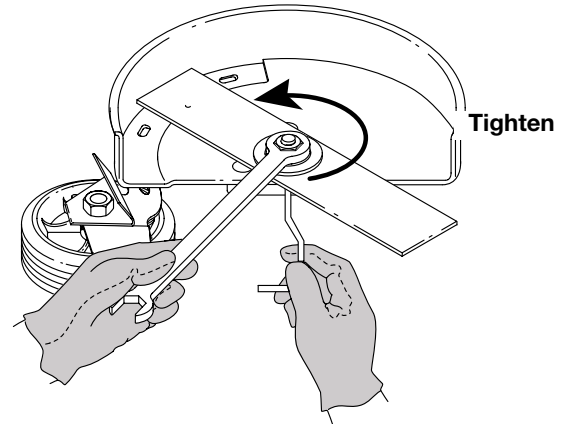

Fig. 30
4. Insert the locking rod through the slot into the output shaft hole. Make sure that the blade stays flat and centered against the output shaft while tightening the lock nut **counterclockwise** (Fig. 30).
Without a torque wrench, hold the locking rod in the slot. Rotate the nut **counterclockwise** with a 5/8 inch closed-ended or socket wrench, until the nut presses against the washer and the blade is snug. Make sure the blade assembly is installed correctly, then rotate the nut an additional **1/4-1/2 turn** (Fig. 30).
2. Insert the four (4) screws into the holes in the air filter/muffler cover (Fig. 30) and tighten.